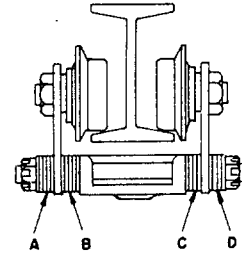

FIGURE 7. ATTACHING HOIST TO TROLLEY.
5. With the trolley mounted on the beam, attach the hoist by inserting the suspension lug into the trolley load bracket and inserting the suspension pin through the load bracket and suspension lug as shown in Figure 7.